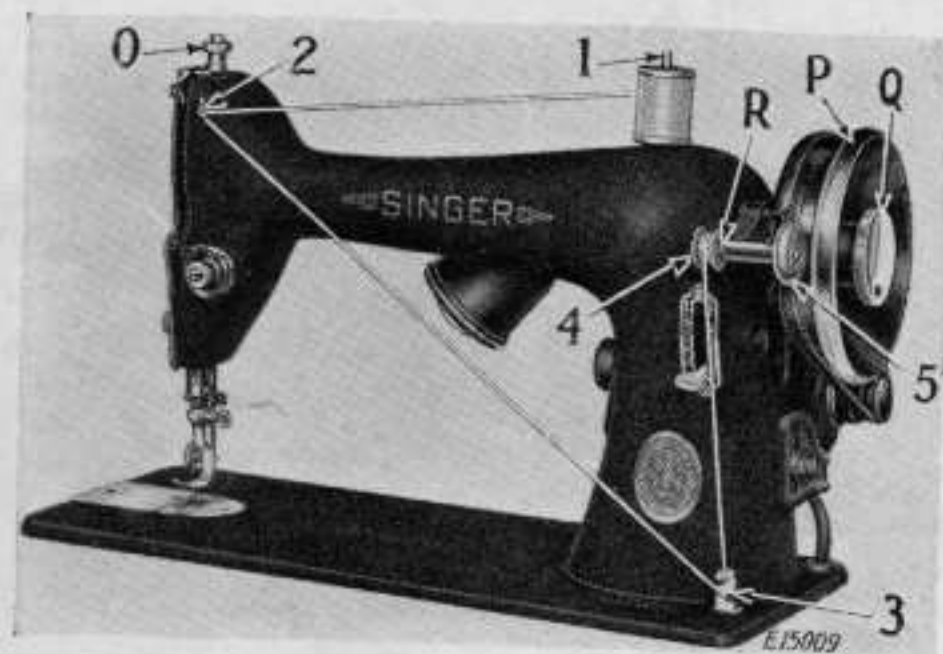

FIG. 5. MACHINE THREADED FOR WINDING THE BOBBIN
It is necessary to understand the stop motion (Q, Fig. 5) by which the balance wheel (P) can be
The end of the thread must be held by hand until a few coils are wound and should then be broken off. Fig. 5 shows the bobbin winder properly threaded and in position for winding. When sufficient thread has been wound upon the bobbin, pull the bobbin winder pulley away from the balance wheel and remove the bobbin from the spindle.
For ordinary family sewing, it is seldom necessary to change the pressure on the material. If sewing fine silk or flimsy material, lighten the pressure by turning the thumb screw (O, Fig. 5) on the top of the machine to the left so that it screws up. To increase the pressure, turn this thumb screw to the right, so that it screws down. The pressure should be only heavy enough to prevent the material from rising with the needle and to enable the feed to move the work along evenly. The heavier the material, the heavier the pressure; the lighter the material, the lighter the pressure.